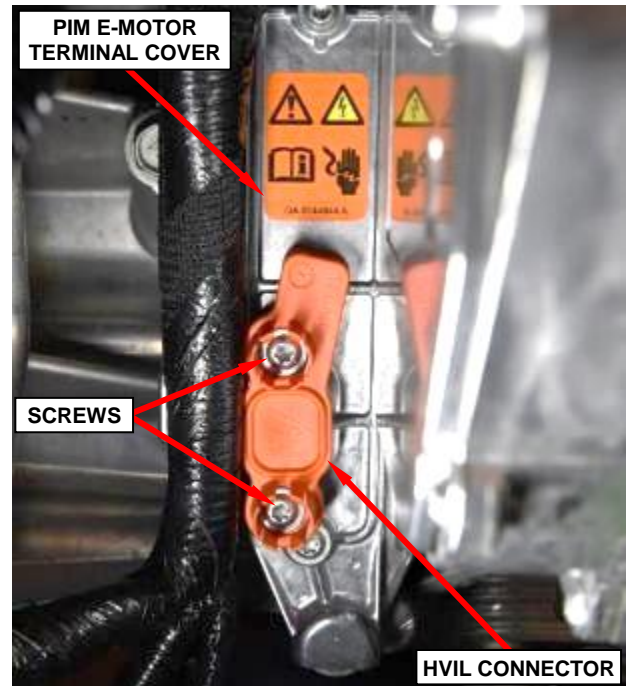

Figure 32 – HVIL Connector
- 58. Loosen the two captured screws then remove and save the HVIL connector from the PIM e-Motor terminal cover (Figure 32).
6. Install the **new** High Voltage Interlock (HVIL) connector to the PIM e-Motor terminal cover. Tighten the two captured screws to 7.8 N·m (69 In. Lbs.) (Figure 32).